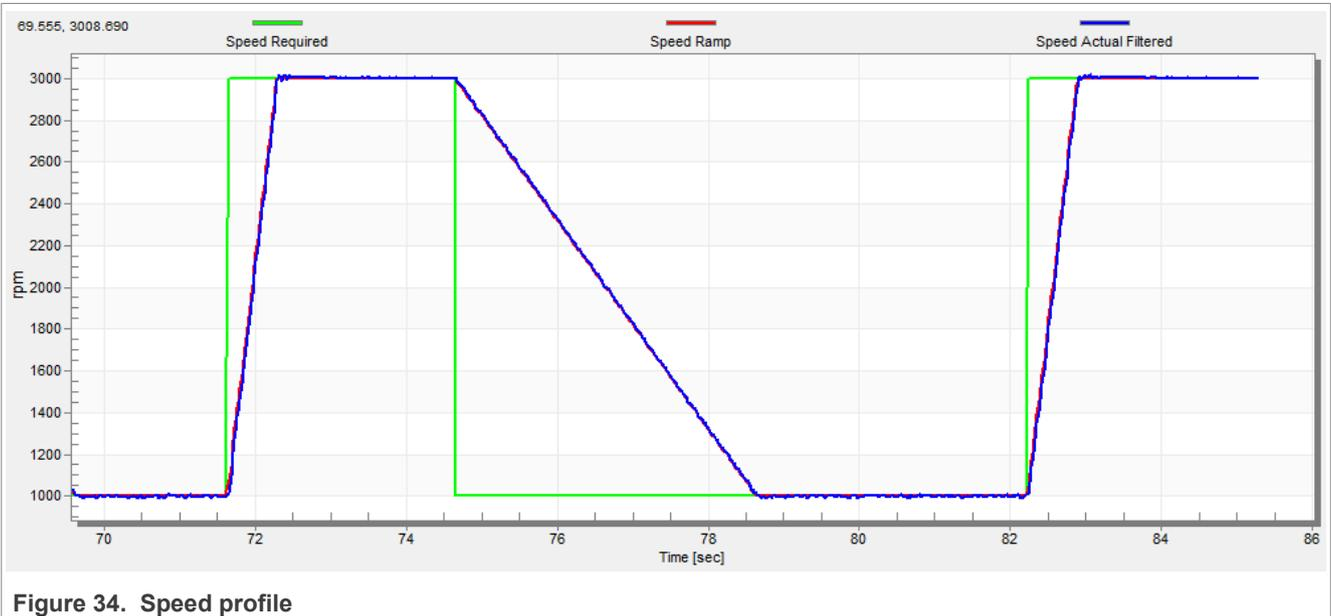

Figure 34. Speed profile
2. The increments are common for the scalar and speed control. The increment fields are in the "Speed loop" tab and accessible in both tuning modes. Clicking the "Update target" button applies the changes to the MCU. An example speed profile is shown in Figure 34. The ramp increment down is set to 500 RPM/sec and the increment up is set to 3000 RPM/sec.